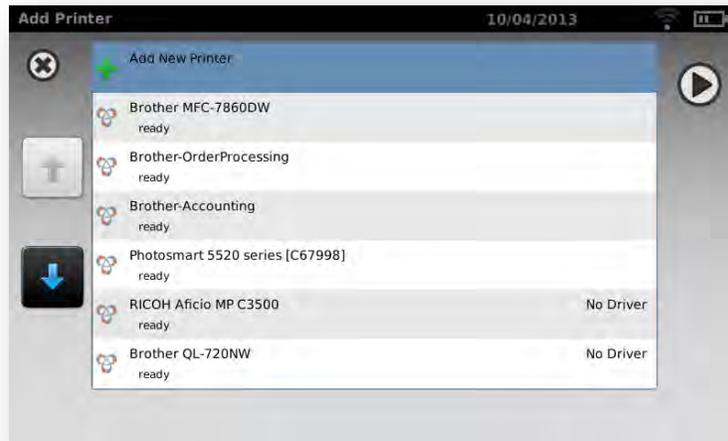

Figure 14
2. If any printers are found on the network, they will appear in the list. If your printer is not shown, select “+ Add New Printer” at the top of the screen (Figure 14) or you can select the printer you wish to add then the **continue icon** .